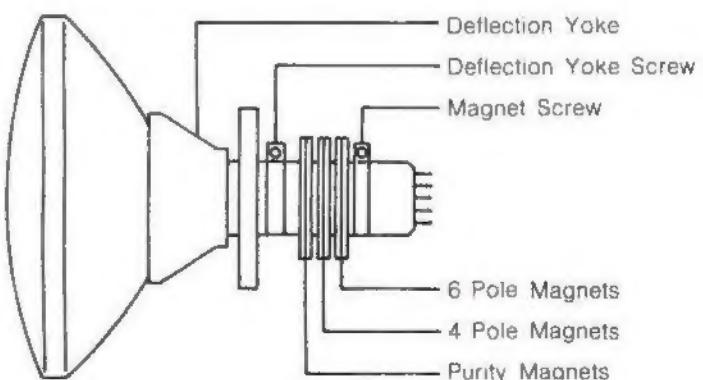

Fig. 3-1
1. Tighten the screw for the magnet. Refer to the adjusted CRT for the position. (Refer to Fig. 3-1) If the deflection yoke and magnet are in one body, untighten the screw for the body.